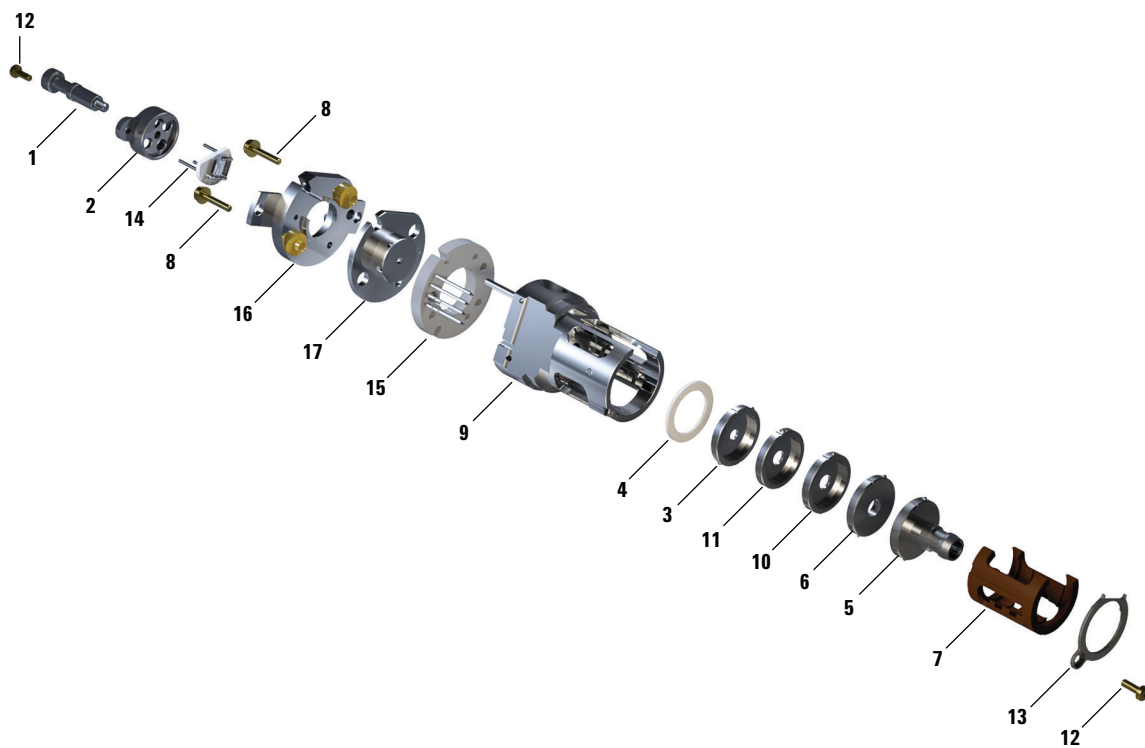

Figure 61 Assembling the EI HES
Refer to the exploded parts view Figure 61 and the EI HES parts list Table 19 on page 190 while using this procedure.
- 3 Insert the lens stack encased in the insulator into the source body. (See Figure 61 on page 190.) The engraved numbers face the full opening extending to the end of the source body. Verify that the ceramic is sitting flush at the end of the source body.
Table 19 Parts list for EI HES (Figure 61)
Table 19 Parts list for EI HES (Figure 61) (continued)